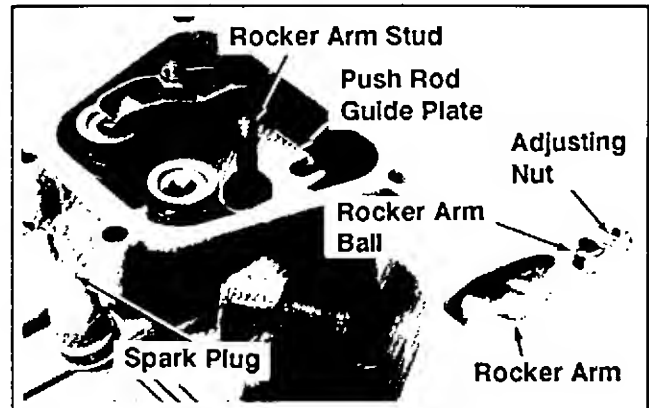

Figure 11-19. Installing Rocker Arms And Spark Plug.
3. Install the push rod guide plate, rocker arm studs, rocker arms and balls, and rocker arm adjusting nuts. See Figure 11-19. Lubricate with engine oil.